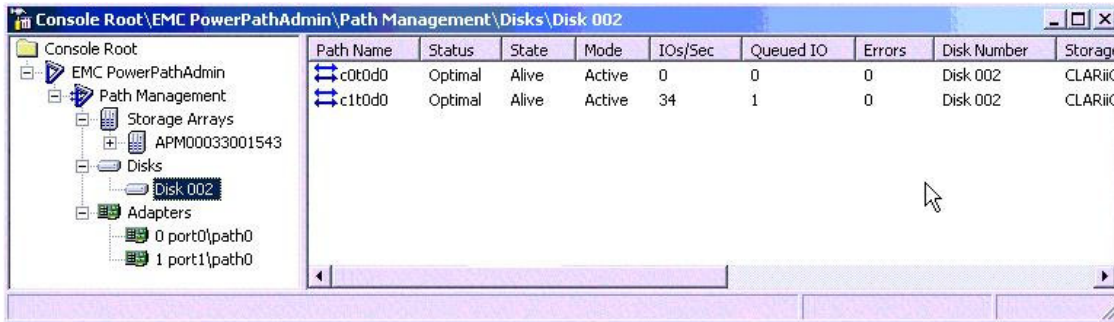

Figure 8-54 EMC PowerPath Management window
2. In Figure 8-54 on page 269, the second path is added with active status from the Blade Server to the CX700 Storage. At this point, both paths are active and in optimal state, as shown in Figure 8-54 on page 269: